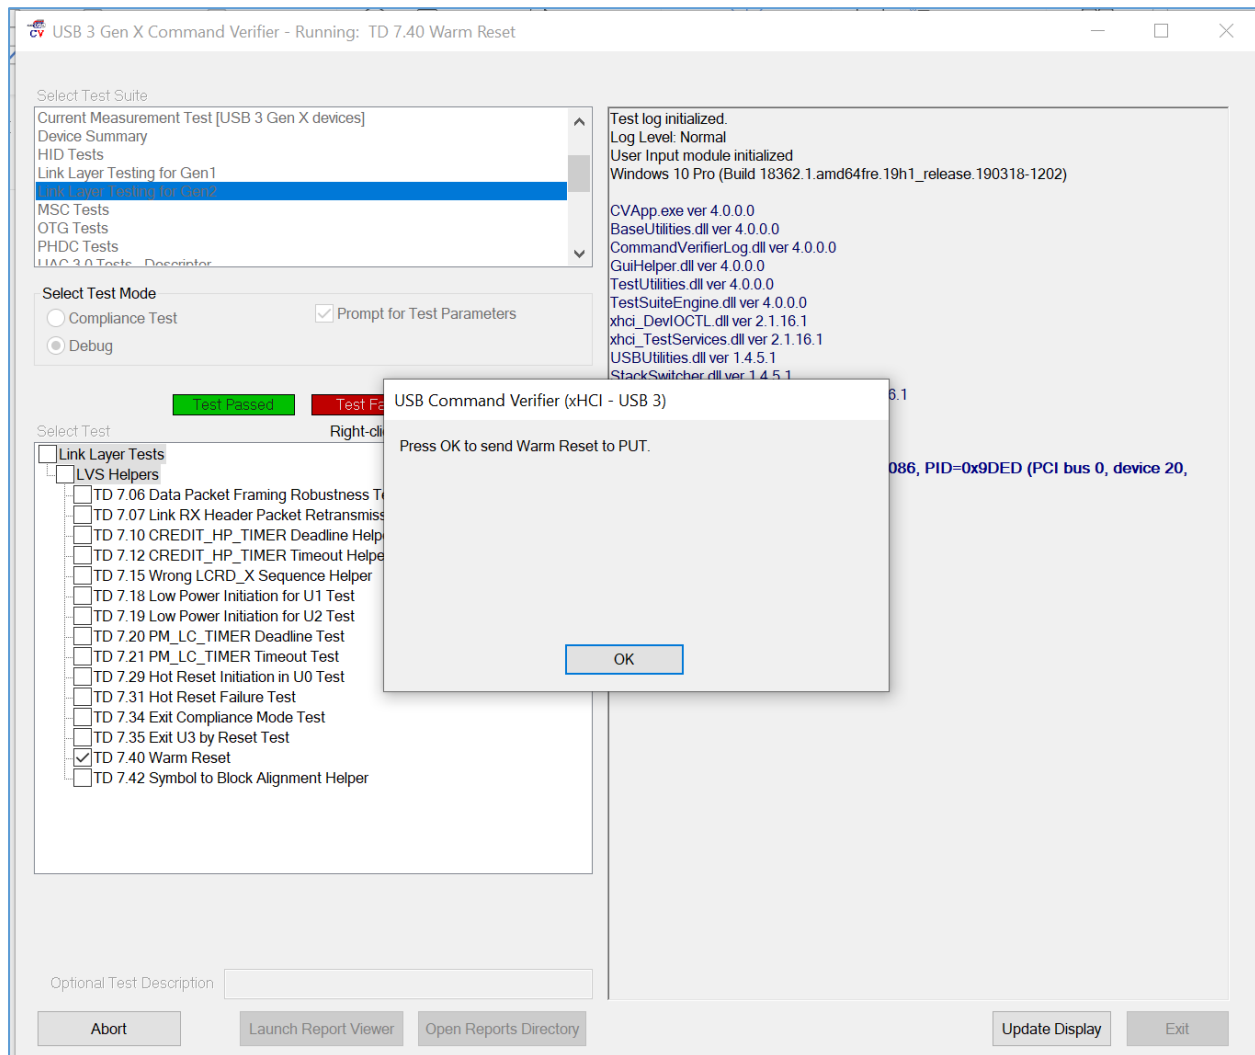

FIGURE 7.20: USER PROMPT TO CONFIRM WARM RESET EXECUTION IN CV TOOL
13. While test is running, the user will be asked to confirm warm reset to be carried out on the UUT (Figure 7.20 below). Select “OK” to proceed. The user will also need to update the status in the GRL-USB-PD-C2-EPR application pop-up screen.